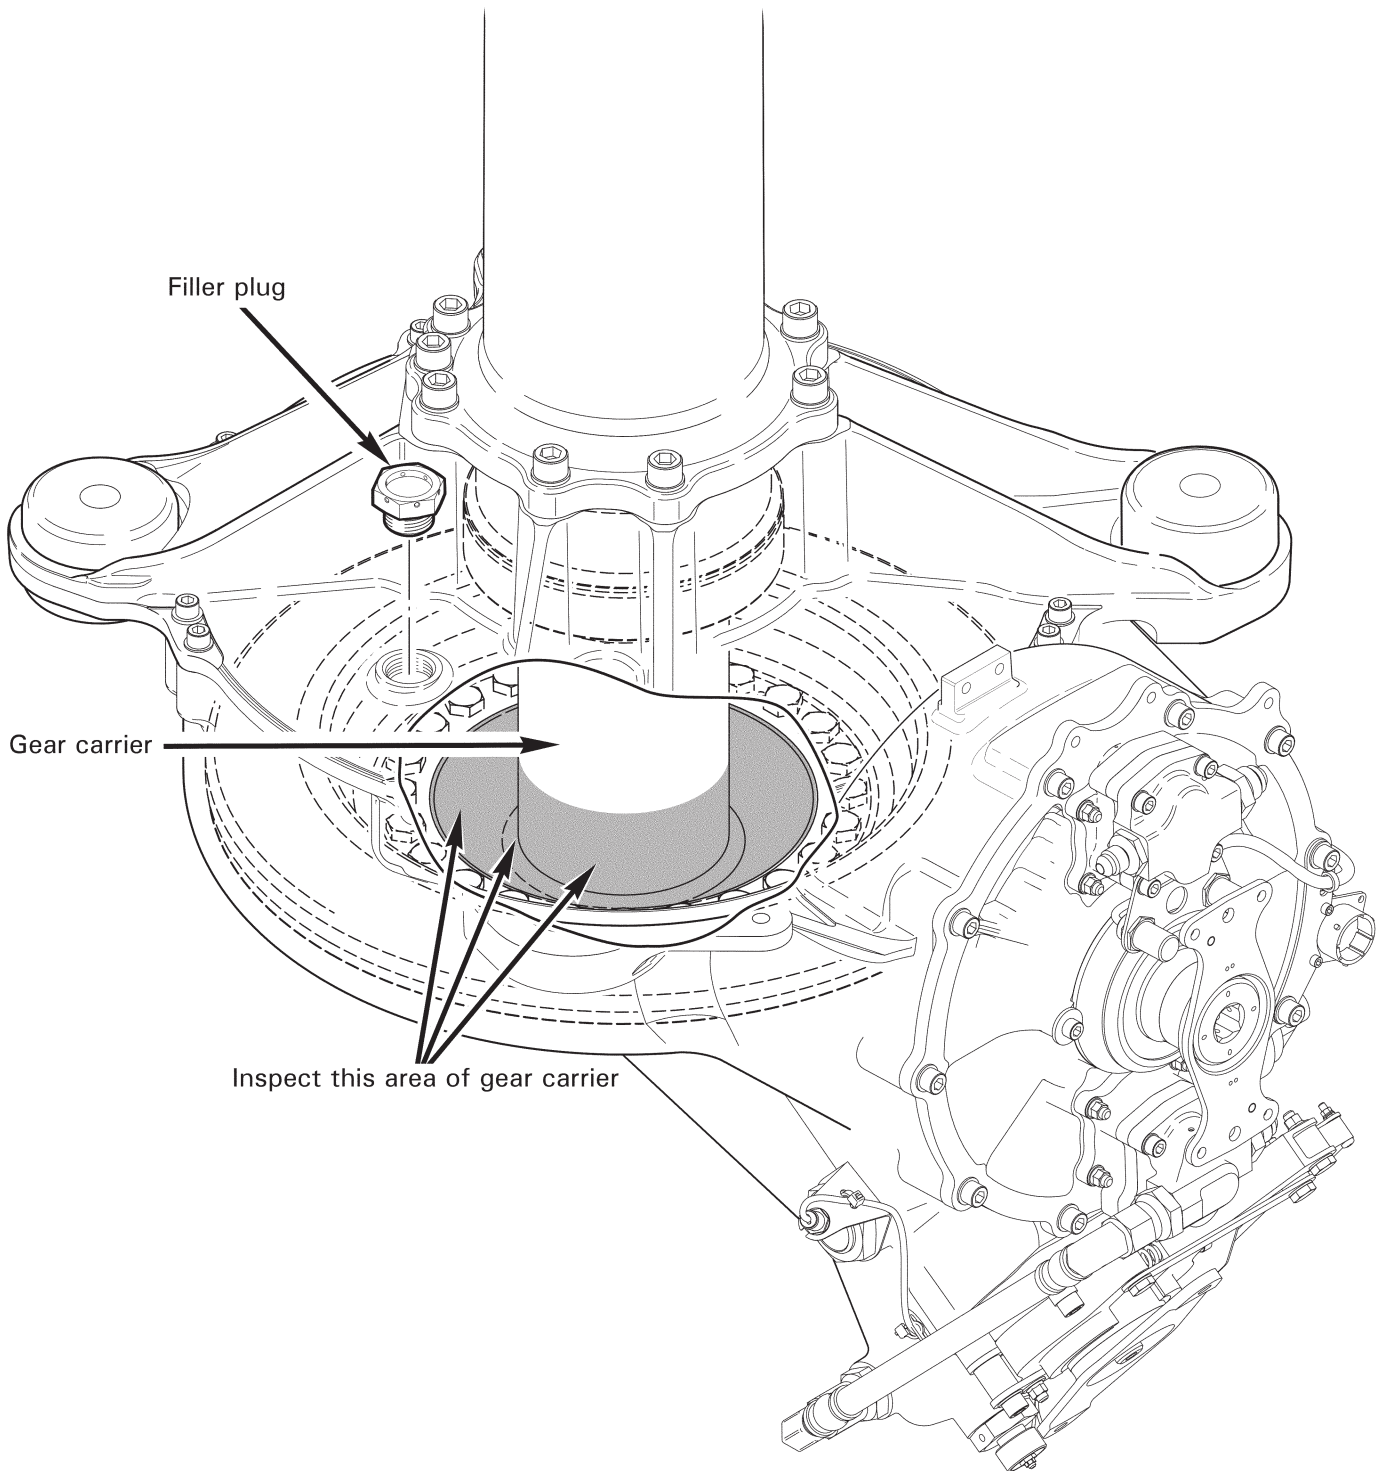

FIGURE 1
1. Refer to Figure 1. Gain access to and remove MRGB filler plug.